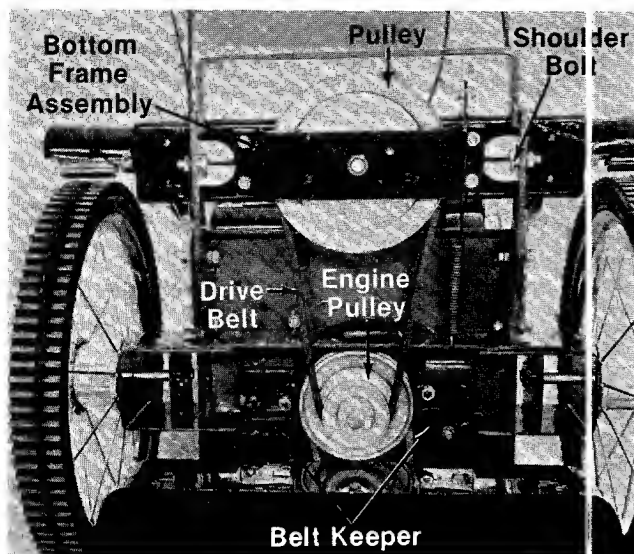

FIGURE 20.
Drive Belt (See Figure 20)
1. Unhook the spring. Remove the shoulder bolts, lock washers and hex nuts which secure the drive mechanism to the frame. See figure 20.
2. Remove the drive belt from the engine pulley. See figure 20.
3. Remove the belt keeper from each side of the engine pulley. See figure 20.